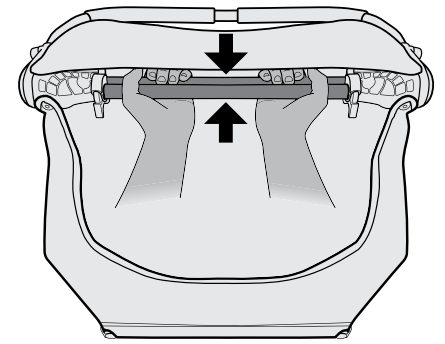

Figure 3
3. Squeeze frame tubes together to click securely in place (Figure 3).